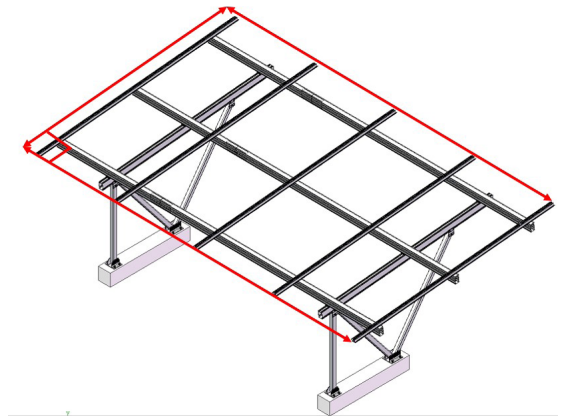

Figure 14
5.2.3 According to engineering drawings, repeat the above operations to install the other T-Rail as shown in Figure 14.